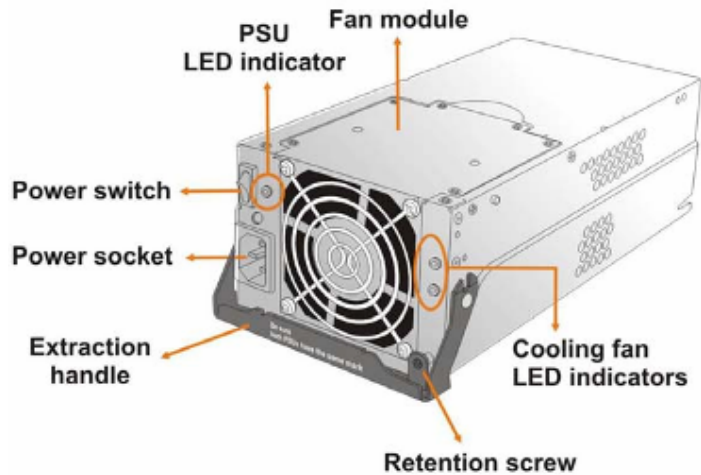

Figure 1-13: PSU Module
As shown in **Figure 1-13**, each PSU comes with a power socket and a power switch to turn the system on and off. Two (2) embedded cooling fans provide sufficient airflow. A single LED indicates the PSU status. When a power supply failure occurs, the LED lights red. An extraction handle at the rear of the PSU is designed to help properly install or remove the module.